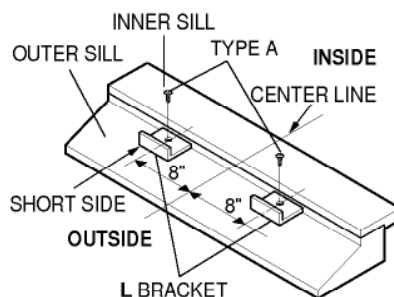

Figure 28
- a. Carefully lift the air conditioner and slide it into the open window. Make sure the bottom guide of the air conditioner drops into the notches of the L bracket. See Figure. 28.